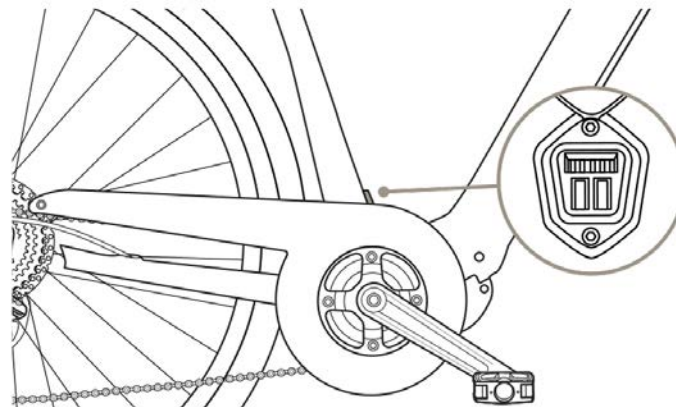

FIG. 12
- The first by connecting the battery charger directly to the frame via the appropriate socket located on the saddle tube (Fig. 12).